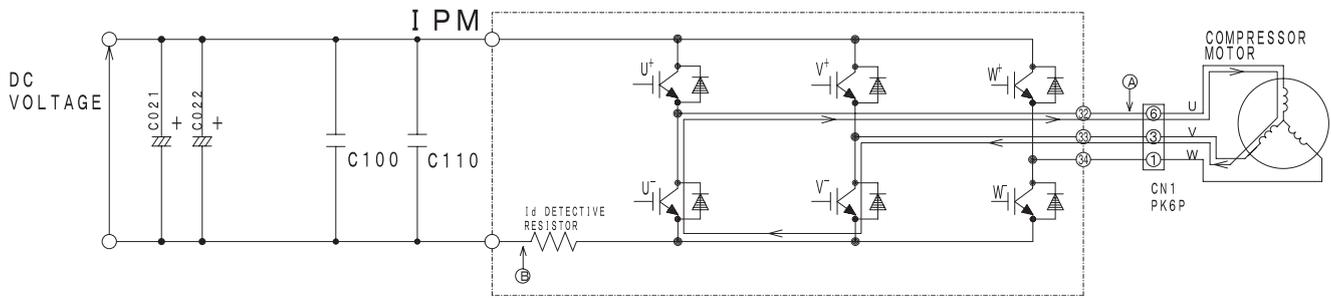

Fig. 3-4 Power module circuit (U⁺ is OFF, V⁻ is ON)
At point ⑥: U⁺ is chopped (OFF), V⁻ is ON (circuit in Fig. 3-4)
- (2) When U⁺ transistor is OFF: (by inductance of motor coil) U coil → V coil → V⁻ transistor → U⁻ diode → Point ⑤ (Fig. 3-4)